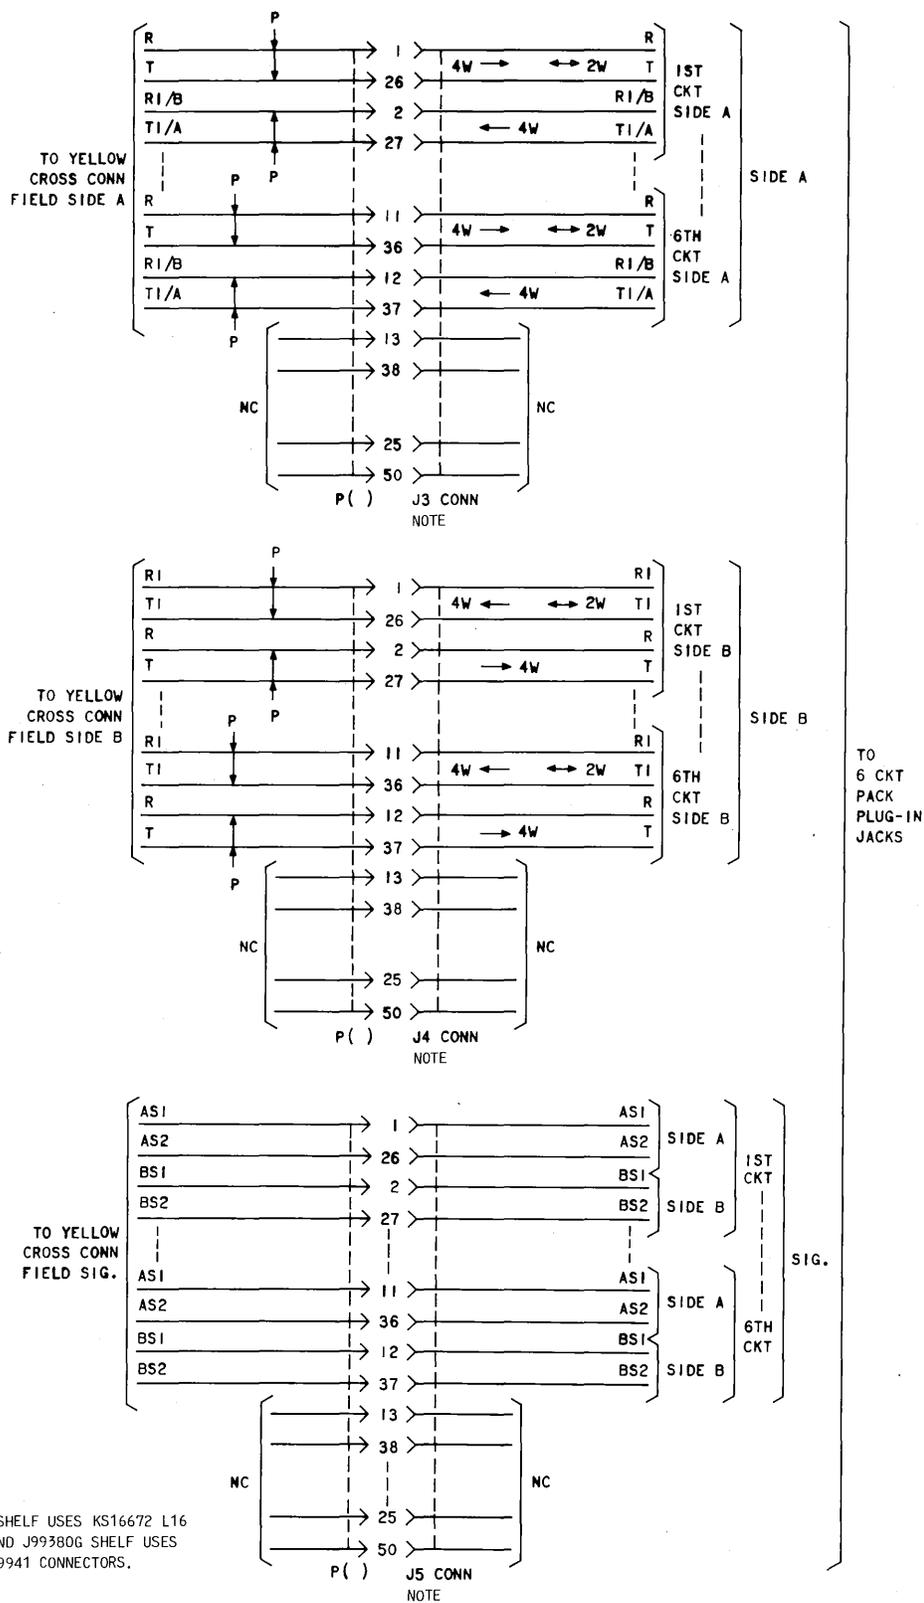

Fig. 8—J99380E and J99380G Shelves—Transmission and Signaling Lead Connector Interface
4.11 The J99380E shelf wiring is terminated in three KS-16672, L16 connectors J3, J4, and J5 as shown in Fig. 8. The A side transmission leads are terminated on J3; the B side, on J4; and the signaling leads, on J5.
J6. The A side transmission leads are terminated on J3; the B side, on J4; the signaling leads for both sides, on J5; and the power leads, on J6. The transmission and signaling lead interface for the J99380G shelf is shown in Fig. 8.